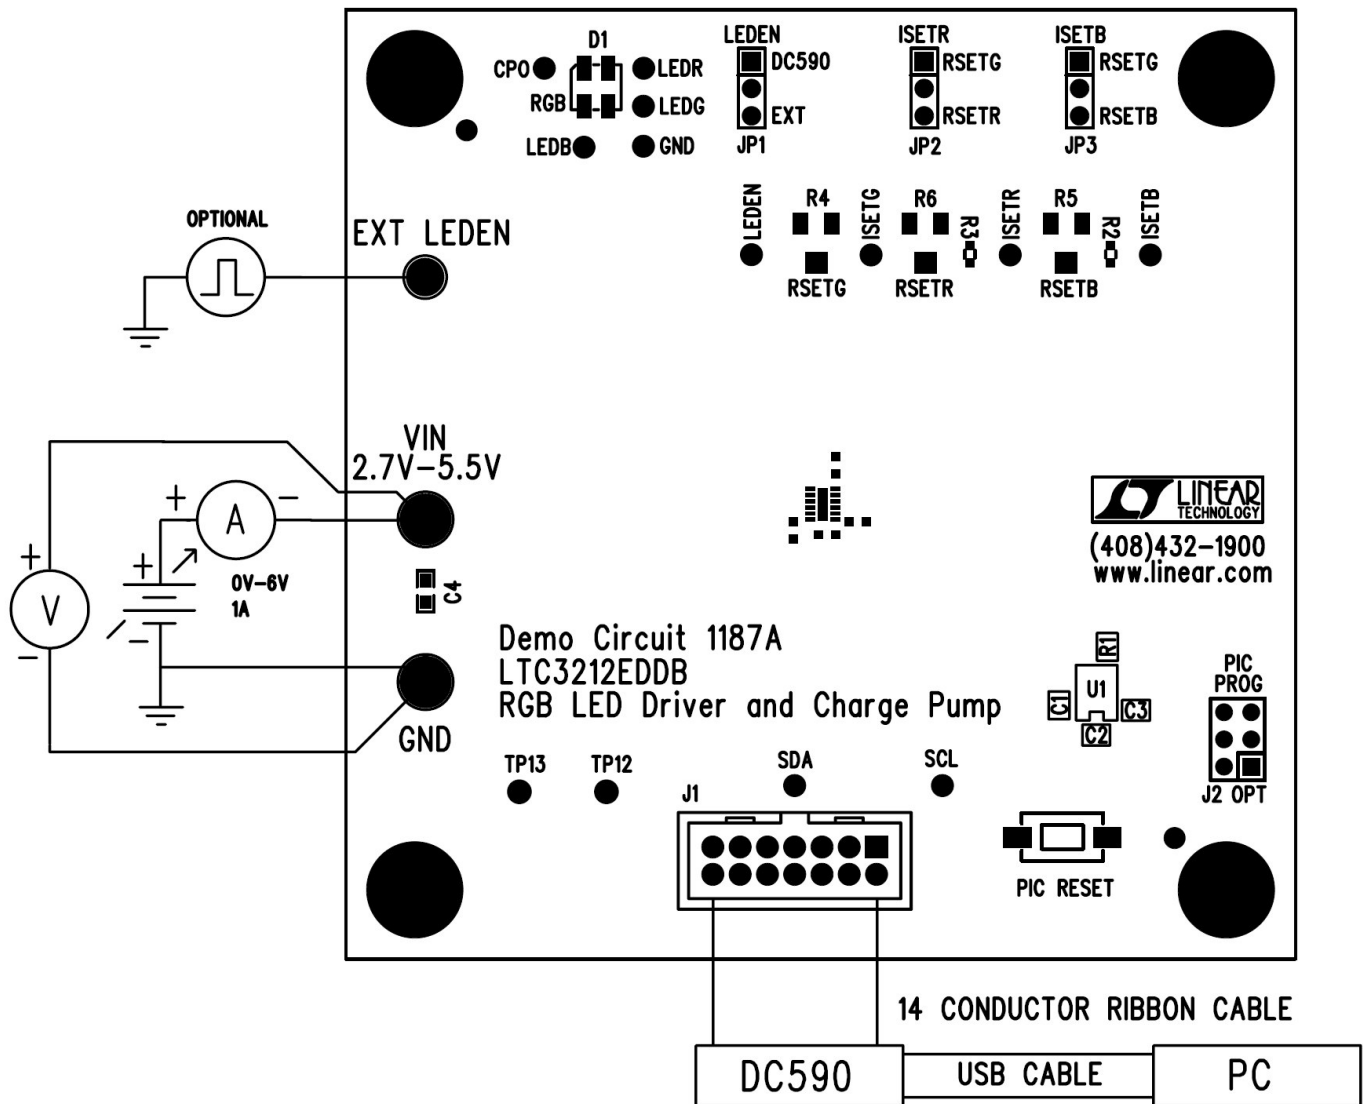

Figure 1. Proper Measurement Equipment Setup
Demonstration circuit 1187 is easy to set up to evaluate the performance of the LTC3212. Refer to Figure 1 for proper measurement equipment setup and follow the procedure below:
6. Connect DC1187 to the DC590 USB Serial Controller using the supplied 14-conductor ribbon cable as shown in Figure 1.
7. With power off, connect the input power supply to VIN and GND with a series ammeter and a voltmeter as shown in Figure 1.